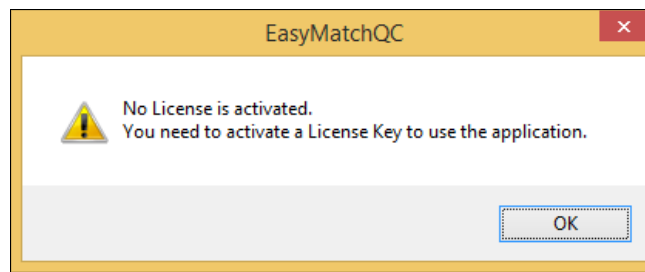

Figure 6. No License Warning
2. A warning message to activate the license will be displayed as shown in Figure 6.